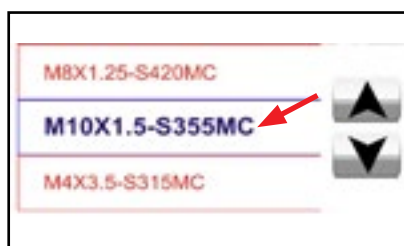

FIG. 5
- Select a program from the menu (Fig. 5)